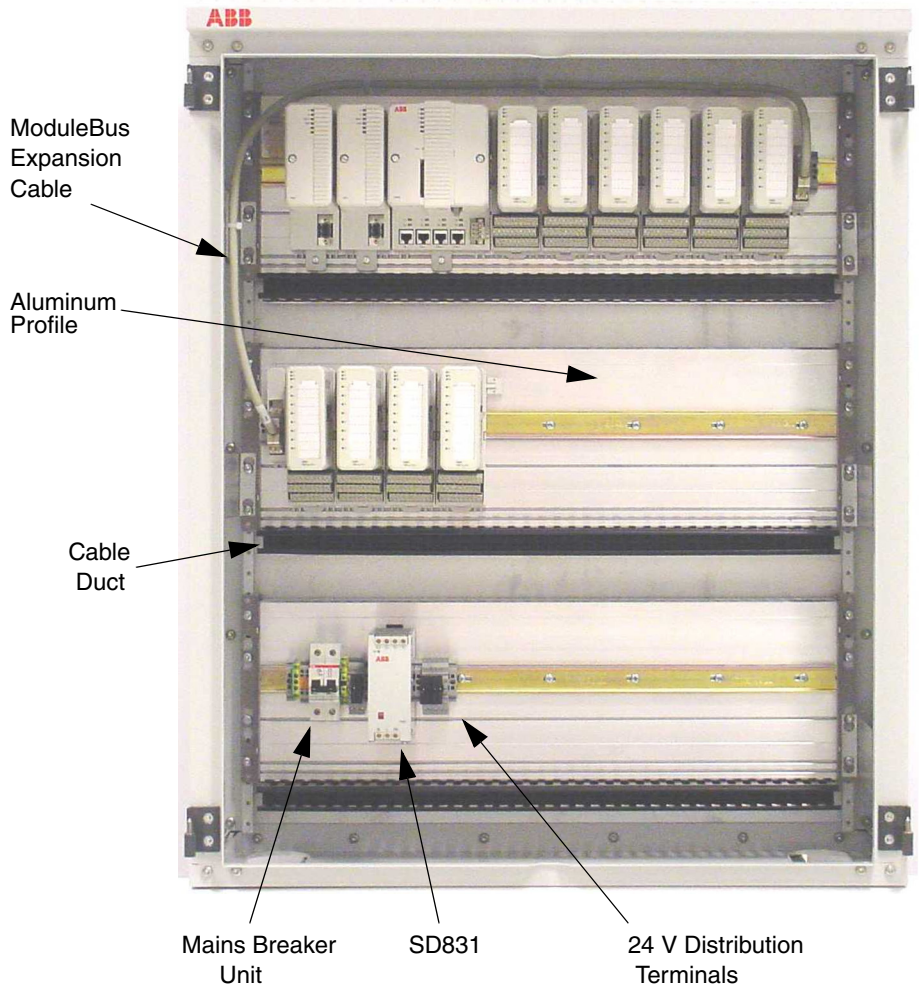

Figure 54. Wall Cabinet – Single Power Supply Arrangement
- Figure 54 on page 154: Wall Cabinet – Single Power Supply Arrangement